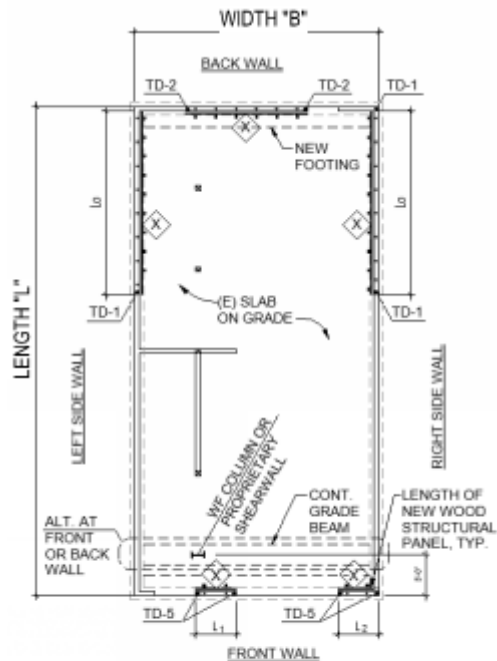

Figure 3
- The retrofits shall include bracing elements at the dwelling front, back and side walls (See Figure 3). Bracing elements at the side walls are to be wood structural panel shear walls; bracing elements at the front and back walls are permitted to be of any of the bracing element types listed above